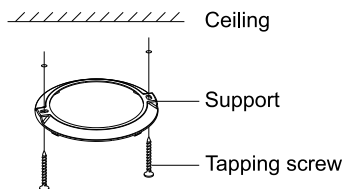

Figure 3
2. Install the alarm: Fasten the alarm on the wall hanging bracket and turn it clockwise until the alarm is locked and fixed on the wall hanging bracket (installation process is shown in Figure 3).